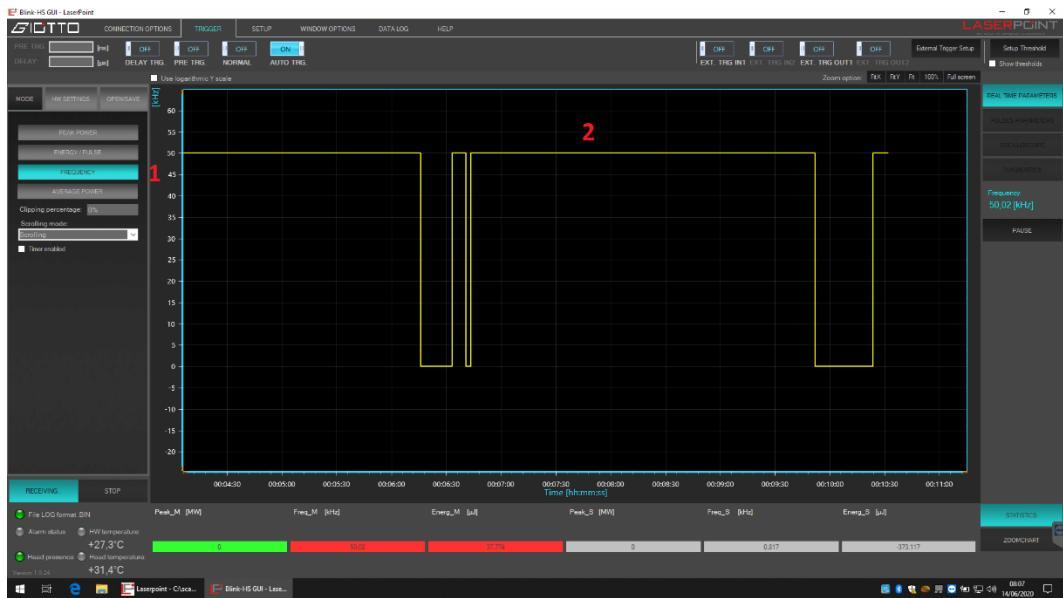

Figure 30
3. Select Frequency (kHz) (1, fig.30), the real time average values over 1 ms vs time are displayed, (2, fig.30)